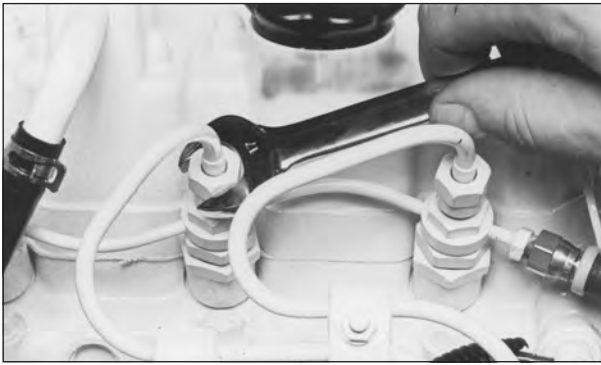

Figure 12: Remove delivery line flare nuts.
- b. Relieve high pressure in the fuel lines by loosening the delivery line flare nuts at each injector (Figure 12).